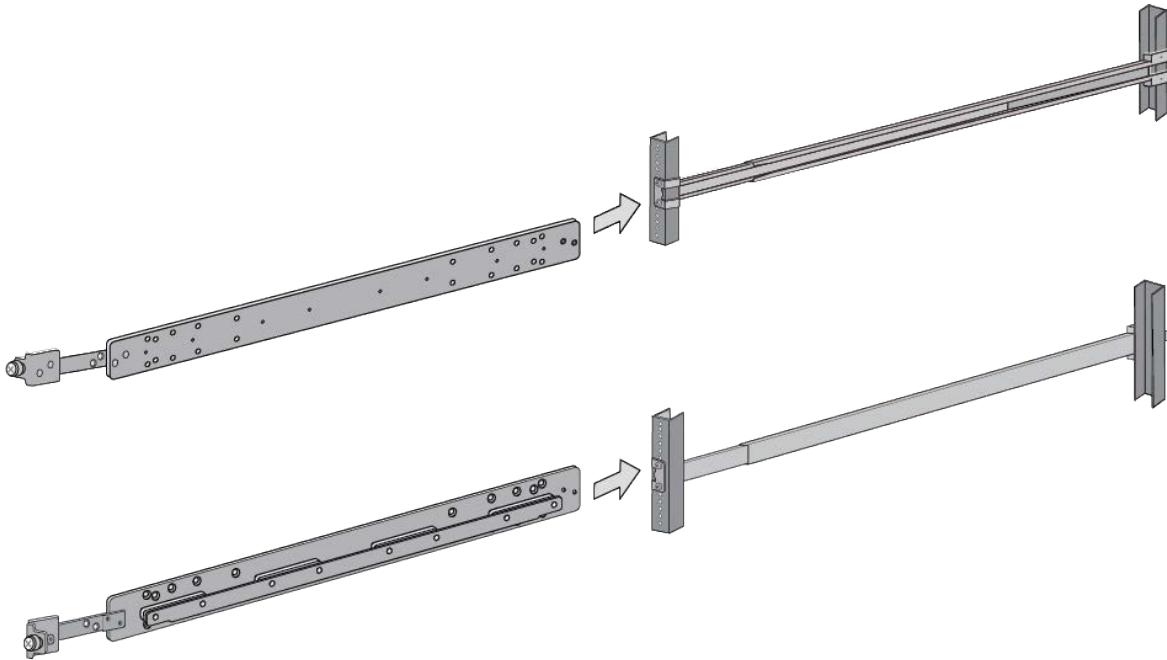

Figure 82. Testing the Inner Rails with the Extension Brackets
4. To test the lengths of the extension brackets, slide the inner rails into the outer rails in the equipment rack. Refer to Figure 82.